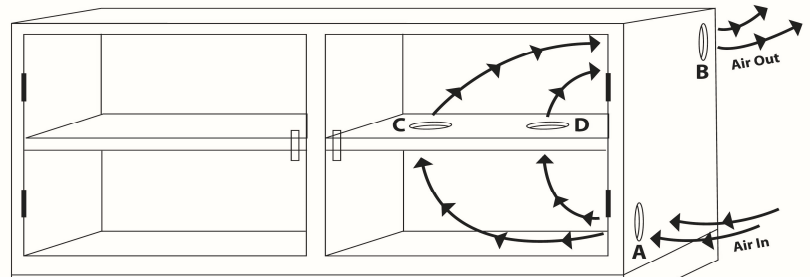

Figure 2
- Cabinets with one accessible side can be vented as shown in Figures 2 and 3 -